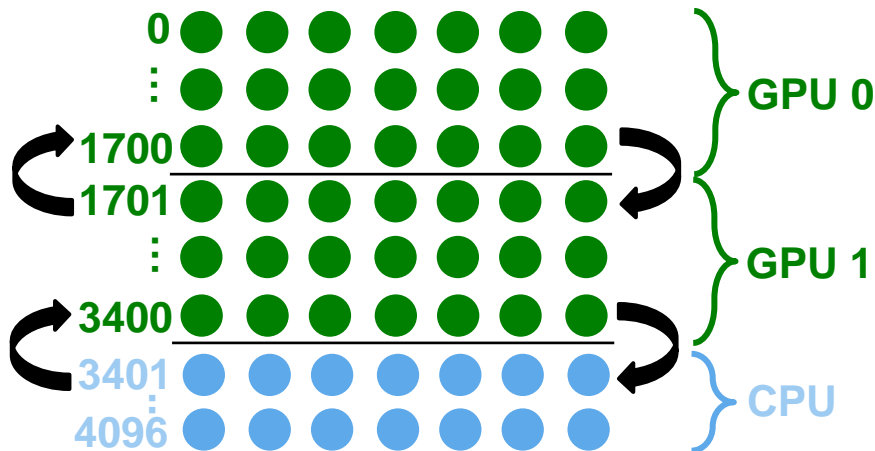

Figure 5: Work distribution between two GPUs and a 2-socket CPUs
partitions: one on GPU 0, one on GPU 1 and one on the CPU (as shown in Figure 5).
- Before the swap loop, the halo data must be exchanged (see Figure 5) which can be done using the `update` directive. The first GPU needs to update its last matrix row, the second GPU needs to update its first and last row and the CPU needs to update its first row. Make sure that the data is synchronized.